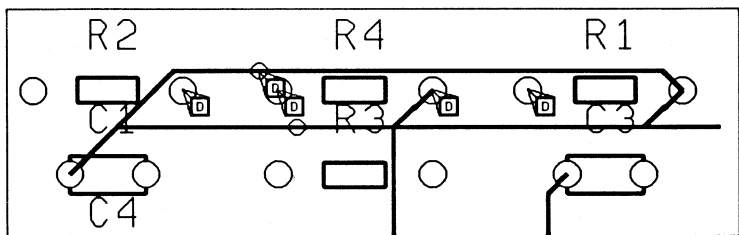

Figure 7-9. The old and new tracks for net N00037.
8. Draw the segment to (3.7000", 1.9000") and select **End**. The message "N00037: Complete" displays and the new track is complete, as shown in figure 7-9.